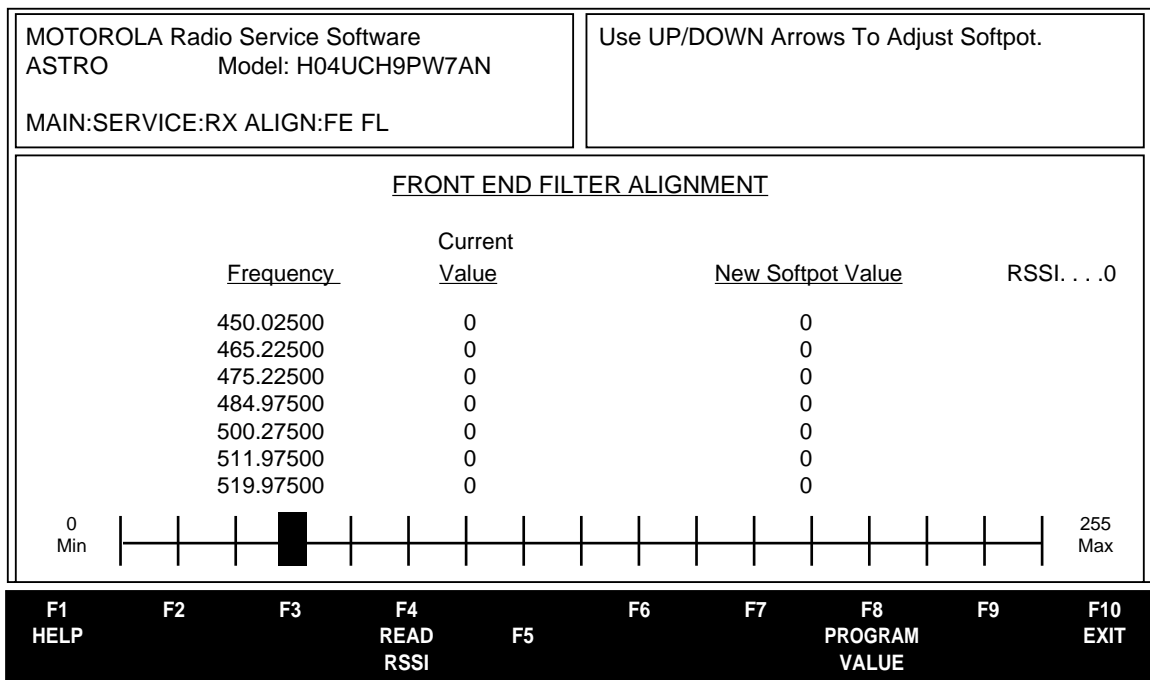

Figure 8. Front-End Filter Alignment Screen
2. Press **F2** to select the FRONT END FILTER ALIGNMENT screen. The screen will indicate the receive frequencies at which the filter is to be aligned. See Figure 8.